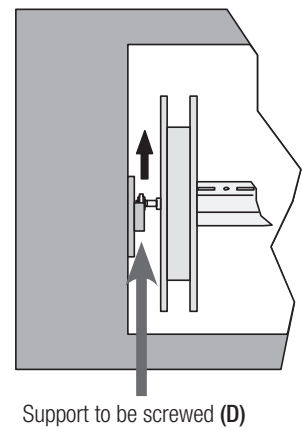

Fig. 6
3. Lift the roller, releasing it from the support to be screwed (fig. 6 ref. D).